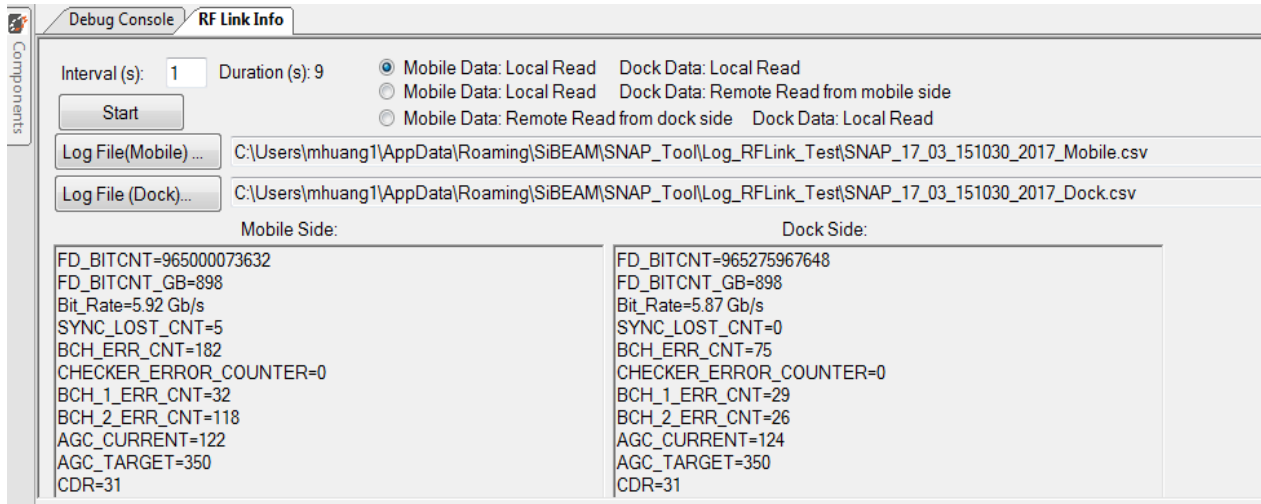

Figure 10.4. Snap_tool RF Link Info Page Current RF Status
Use the Snap_tool RF Link Info page (Figure 10.4) to get more details on the RF link status:
2. Use the RF link status function to check RF link status in real time (Figure 10.4):